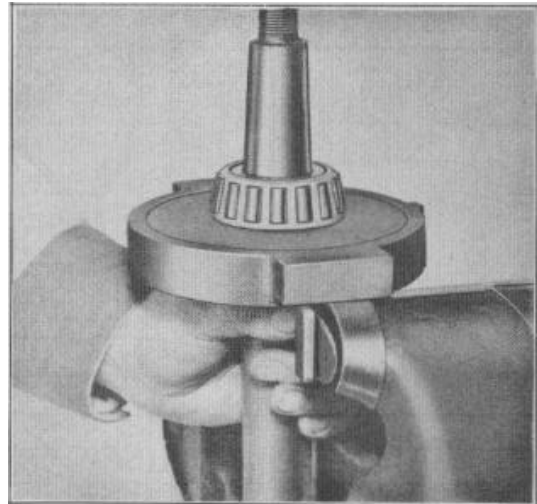

FIGURE 10
6. Remove bearing from axle shaft, using bearing remover J-358 - H - 1 Holder and J-2641 Adapter, Figure 10.